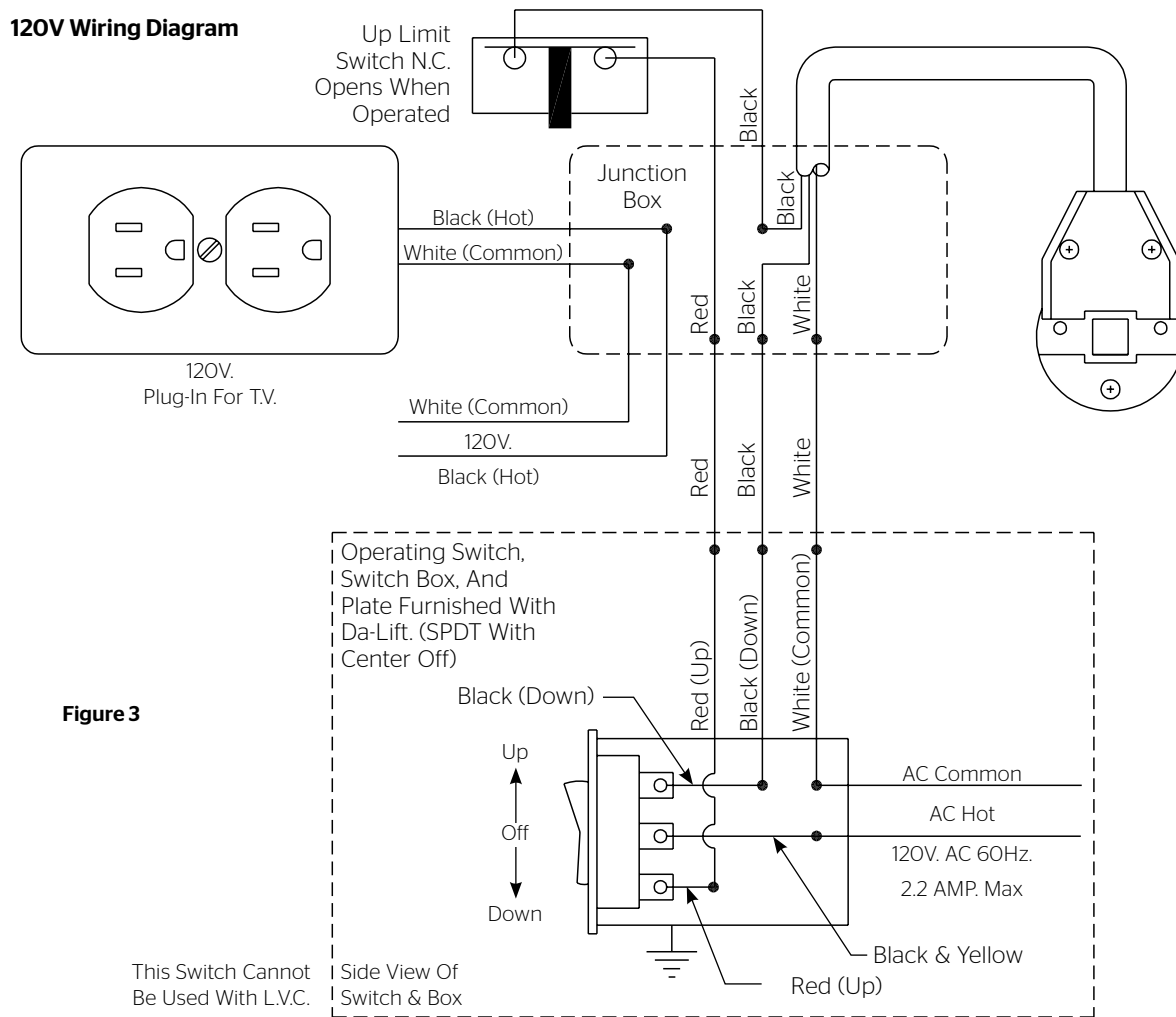

Figure 3
1. Install electrical hook up that applies to your unit. Make sure to review your Electrical Installation Checklist and wiring diagram (see Figure 3) for 120-volt switch, 220/240-volt switch, or DRC low voltage control.
2. Test installation by carefully running Da-Lift “up” and “down” several times. Be prepared to stop the Da-Lift. Duty cycle is three (3) minutes ON and three (3) minutes OFF.